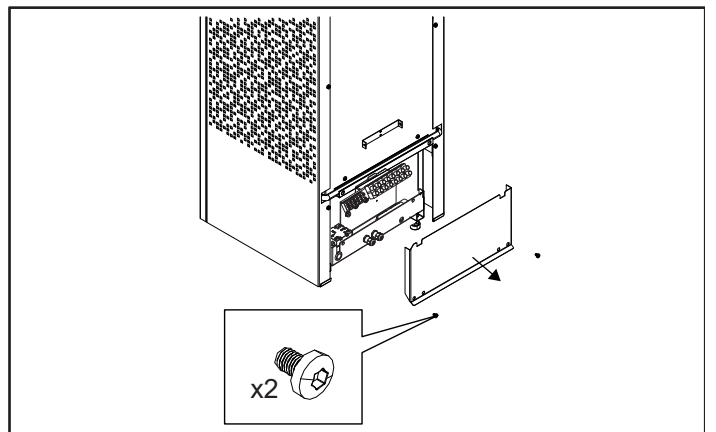

Fig 8: Open the front hatch
2. Undo the screws and open the front and back hatch, figure 8.
5. Put back the front hatch, (see figure 8)